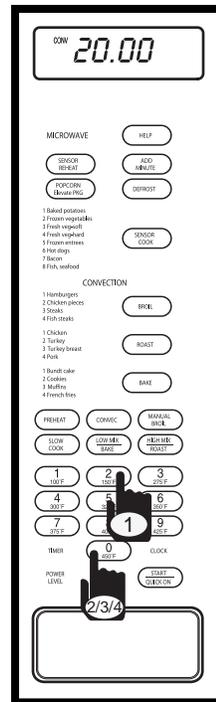

Figure 3-73. Enter Cooking Time
3. Enter desired cooking time. Press the number 2 key, and number 0 key three times. "20.00 - PRESS - START" will flash on display (See Figure 3-73).